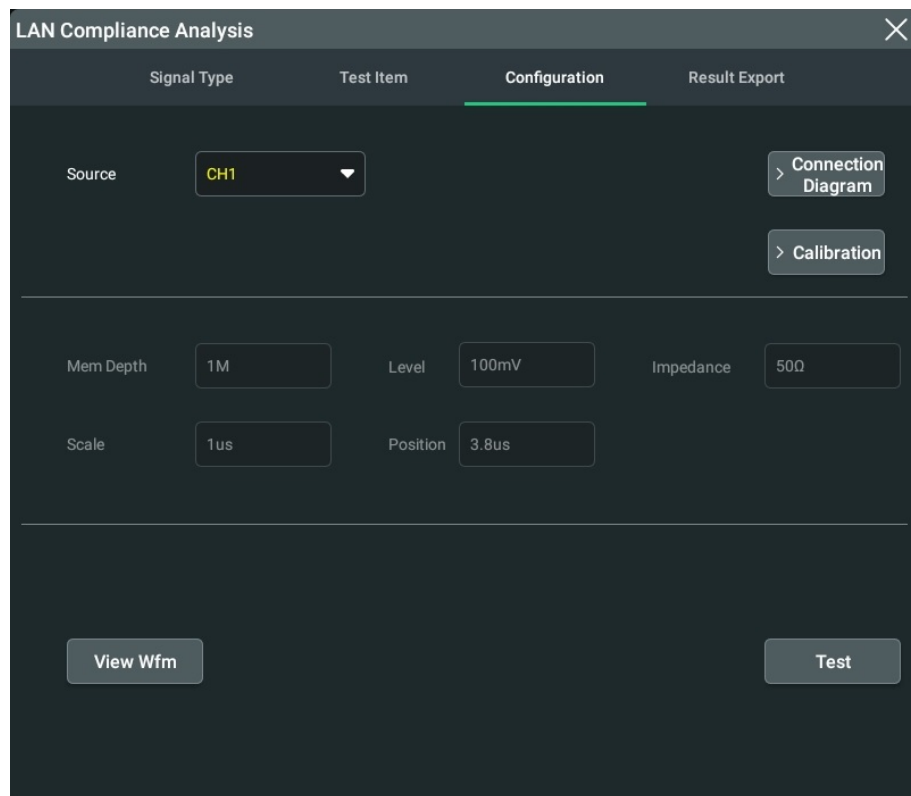

Figure 4.3 Test Configuration
4. After the specified signal type and test item are selected, the oscilloscope outputs a waveform based on the automatically set parameters such as level, scale, and impedance. Click or tap the **Configuration** tab to enter the "Configuration" menu. In this menu, you can view the parameters, as shown in *Figure 4.3*.